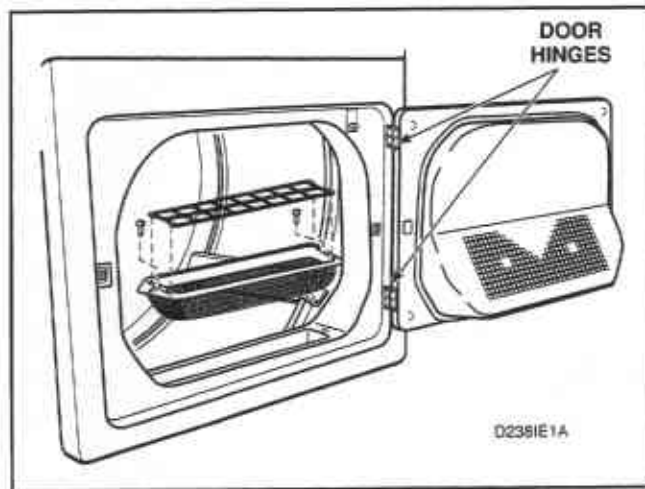

Figure 9
- Support door and remove four screws holding hinges to front panel, *Figure 9*. Remove complete door assembly.